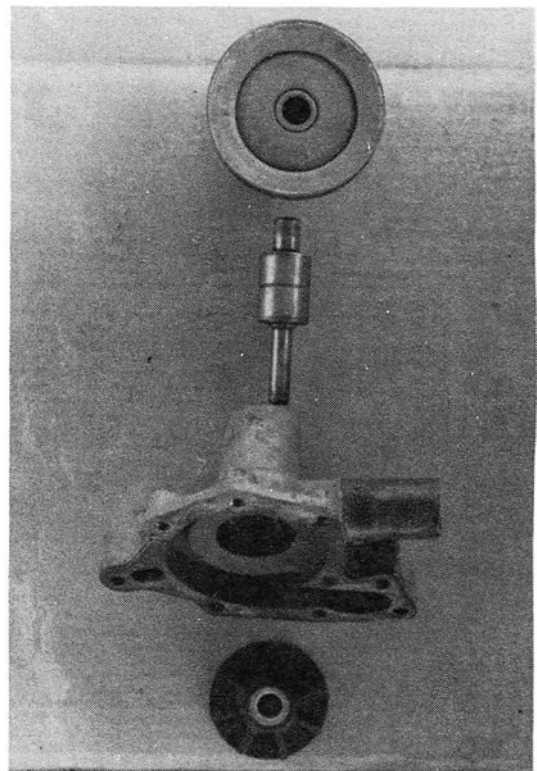

Figure 44
1. Check each component of the water pump for any cracks, wear or damage, Figure 44. Components which are damaged should be replaced.